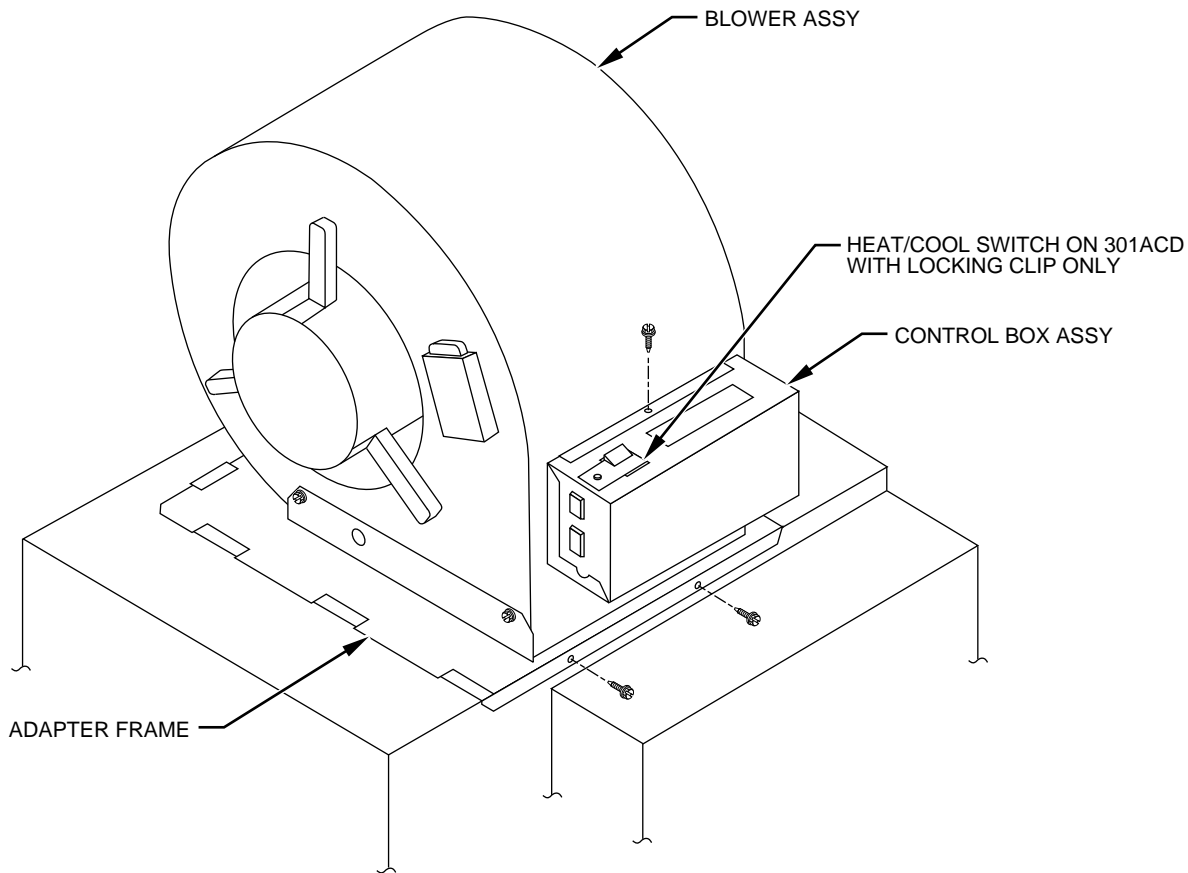

Fig. 2—Blower Mounted in Unit
- d. Mount control box to cover on blower with screw removed in Procedure 3 -1 above. (See Fig. 2.) Make sure bottom of cover engages inside of control box flange.
2. Start blower rail flanges into blower slots and push blower into furnace until mounting bracket flange sits against furnace. (See Fig. 2.)